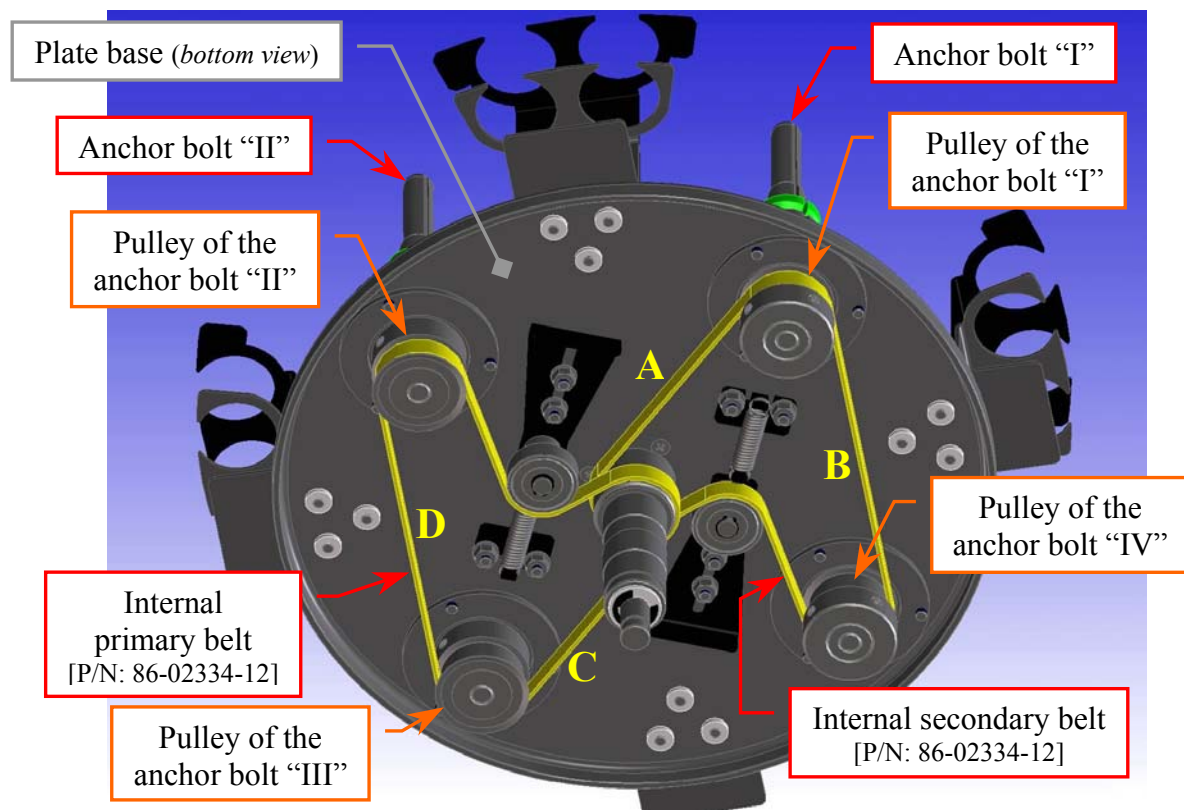
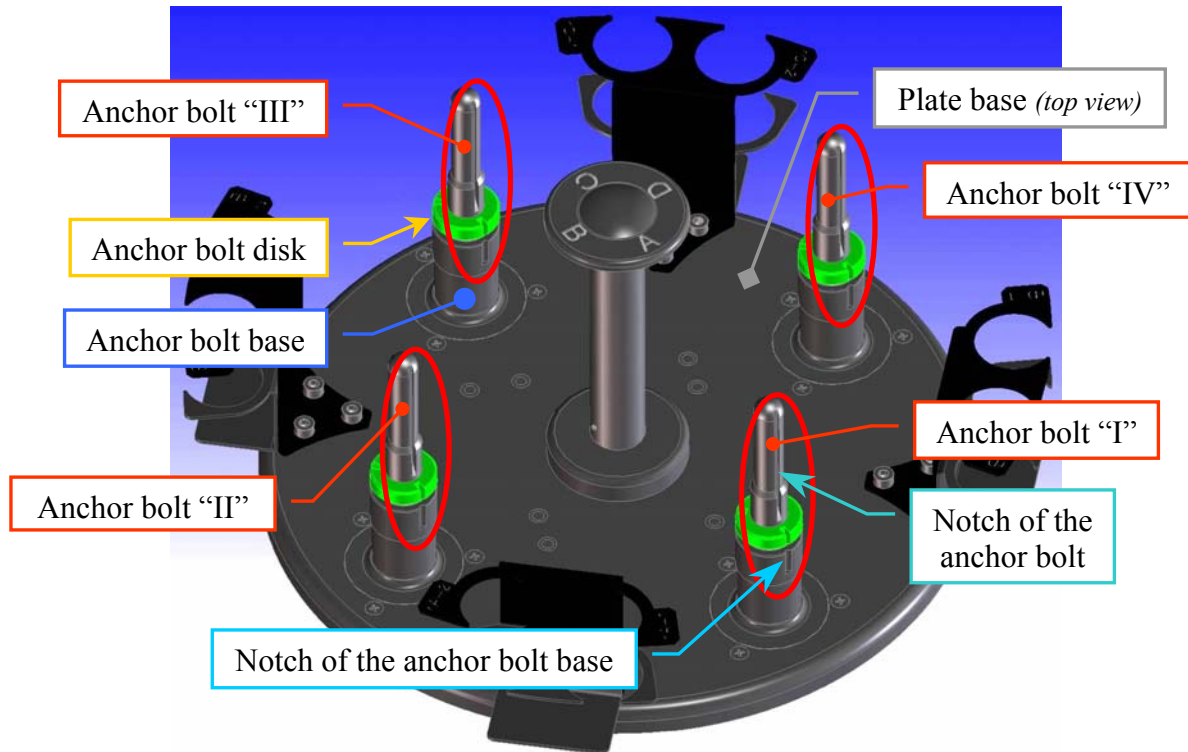

Fig. 79 – Internal primary and secondary belts of the Reagents Plate
Fig. 80 – The plate base of the Reagents Plate
8. Take out the plate base from the container of the Reagents Plate Assy (**Fig. 80**).
9. Identify with the names “anchor bolt I” and “anchor bolt IV” the two anchor bolt connected to the internal secondary belt of the plate base (**Fig. 79**).
10. Identify with the names “anchor bolt II” and “anchor bolt III” the two anchor bolt connected to the internal primary belt of the plate base (**Fig. 79**).
13. Make sure that the internal primary and secondary belts (**Fig. 79**) are serviceability.
- c. wrap the new internal secondary belt around the pulley of the anchor bolt “I”, around the pulley of the anchor bolt “IV”, around the pulley of the central pin, then tighten it slightly resting it on the relative ball bearing (**Fig. 79**);
- d. wrap the internal primary belt around the pulley of the anchor bolt “II”, around the pulley of the anchor bolt “III”, around the pulley of the central pin, then tighten it slightly resting it on the relative ball bearing (**Fig. 79**).
- b. wrap the new internal primary belt around the pulley of the anchor bolt “II”, around the pulley of the anchor bolt “III”, around the pulley of the central pin, then tighten it slightly resting it on the relative ball bearing (**Fig. 79**).
14. Bring into alignment the notch of the anchor bolt “I” with respect to the notch of its base (**Fig. 80**) and – on the other side of the plate base – place in tension the part of the belt placed between the pulley of the anchor bolt “I” and the respective pulley on the central pin (part “A” of the belt in the **Fig. 79**) wrapping correctly the belt on them.
15. Bring into alignment the notch of the anchor bolt “IV” with respect to the notch of its base (**Fig. 80**) and – on the other side of the plate base – place in tension also the part of the belt placed between the pulley of the anchor bolt “I” and the pulley of the anchor bolt “IV” (part “B” of the belt in the **Fig. 79**) wrapping correctly the belt on the latter.
20. Bring into alignment the notch of the anchor bolt “III” with respect to the notch of its base (**Fig. 80**) and – on the other side of the plate base – place in tension the part of the belt placed between the pulley of the anchor bolt “III” and the respective pulley on the central pin (part “C” of the belt in the **Fig. 79**) wrapping correctly the belt on them.
21. Bring into alignment the notch of the anchor bolt “II” with respect to the notch of its base (**Fig. 80**) and – on the other side of the plate base – place in tension also the part of the belt placed between the pulley of the anchor bolt “III” and the pulley of the anchor bolt “II” (part “D” of the belt in the **Fig. 79**) wrapping correctly the belt on the latter.